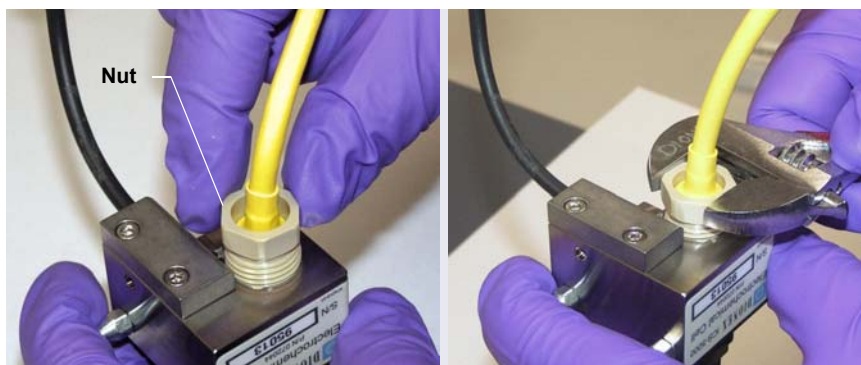

Figure 9-72. Installing the PdH Reference Electrode Nut
10. Screw the nut on the PdH reference electrode into the reference electrode well and tighten it fingertight (see Figure 9-72). After fingertightening, use a wrench to tighten the nut an additional 20 to 30 degrees.